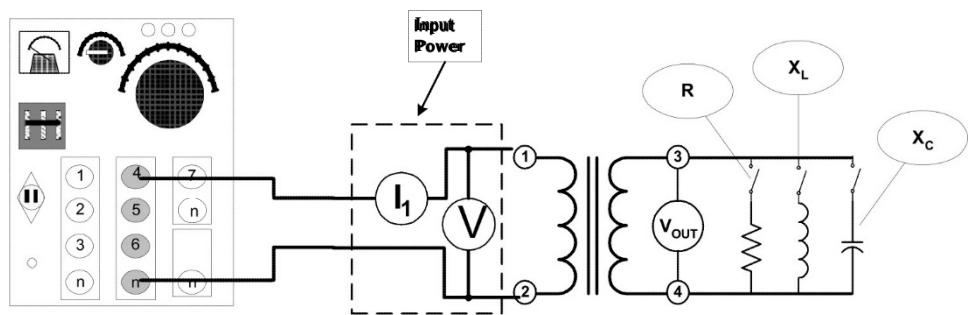

FIGURE 4.21
Step 8: Connect the circuit shown in Figure 4.21. Notice that the three types of load are paralleled connected.